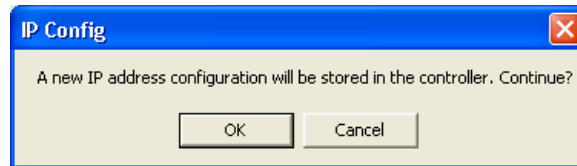

Figure 48. IP Config confirmation dialog window.
7. Set Subnetmask 255.255.252.0 and then click **Store**. The new address will be sent to the Controller and an IP Config window re-opens, see Figure 48.